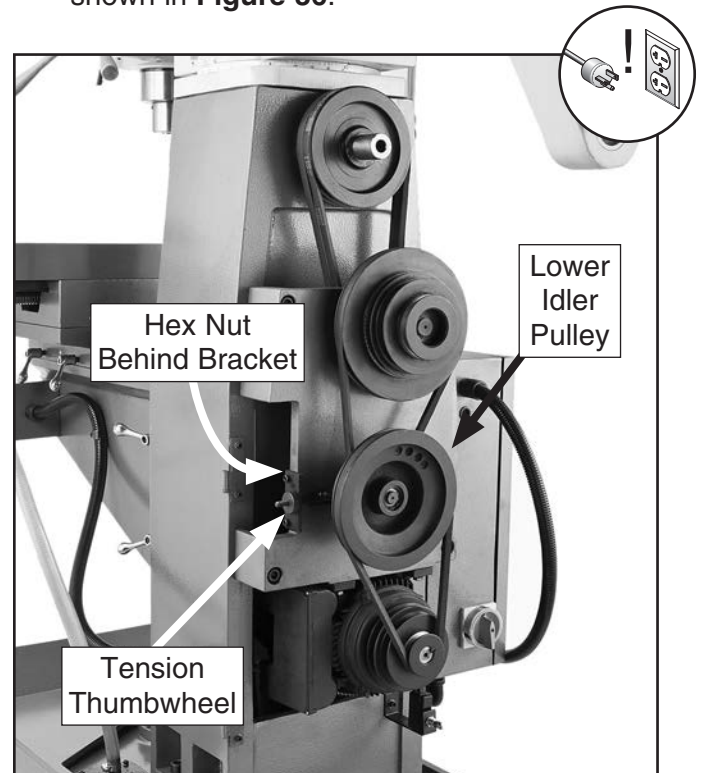

Figure 36. Horizontal spindle V-belts and pulleys (cover removed for photo clarity).
2. Open column rear cover to gain access to horizontal spindle V-belts and pulleys, as shown in **Figure 36**.